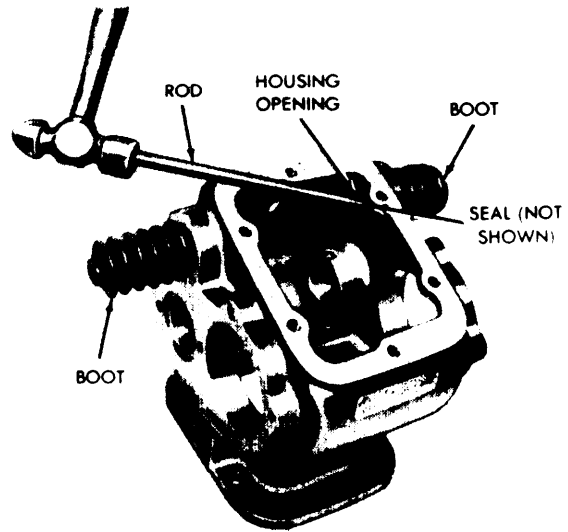

Figure 5-15. Removal of Shifter Shaft Boot and Seal.
*k. Shifter Shaft Boot and Seal.* Using a blunt rod, tap the seal and boot from the seat in the counter bore. (See fig. 5-15.) It is not necessary to remove the seal unless it is damaged.
- a. Shifter shaft boot and seal. (See fig. 5-15.)